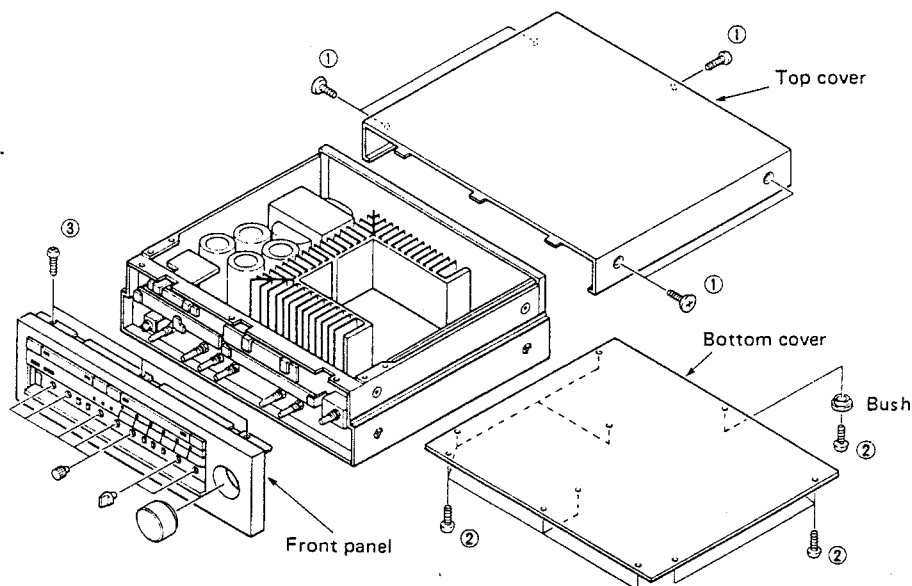

Fig. 1
- a. Remove 5 screws (①) in fig. 1.
- a. Remove 10 screws (②) in fig. 1.
- a. Remove 3 screws (③) in fig. 1.